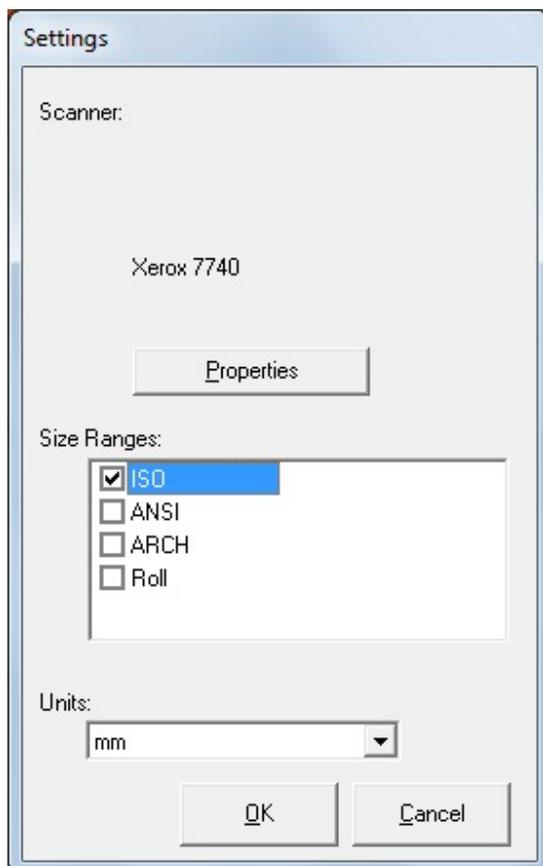

Fig 1-11
Settings is displayed (Fig 1-11) where the Xerox 7740 is now identified. Proceed with the calibration overleaf.
- From the menu bar of the Accxes Copy interface, select **Options > Settings** to open **Settings** (Fig 1-11). Proceed with the calibration overleaf.